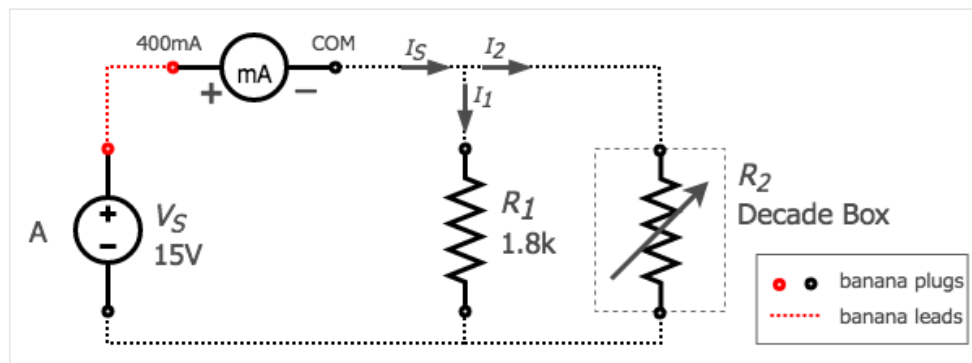

figure 10. Parallel Resistor Test Circuit
- c. Connect the circuit in figure 10 using the following: